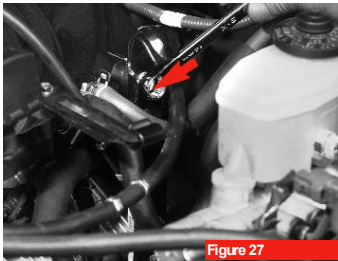

Figure 27
4. When the assembly sits flat on the engine, put the stock manifold brace (driver's side) bolt and supplied spacer in first (see arrow, figure 27) and then install the stock nut so the studs at each end of the manifold and hand tighten. Use M8x35mm Bolt